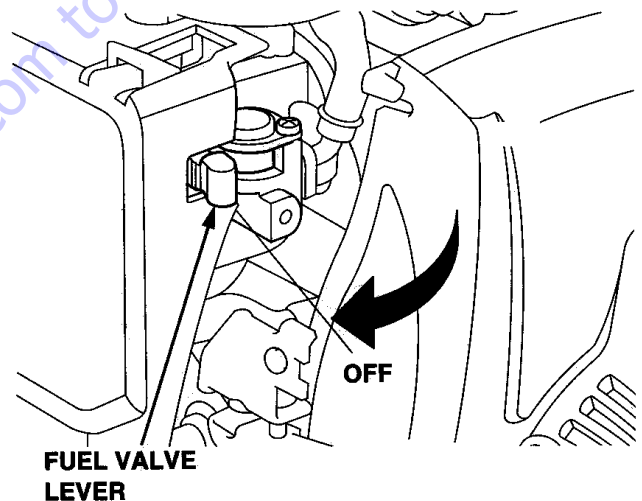

Figure 22. Fuel Valve Lever (OFF)
4. Move the fuel valve lever to the **OFF** position (Figure 22).